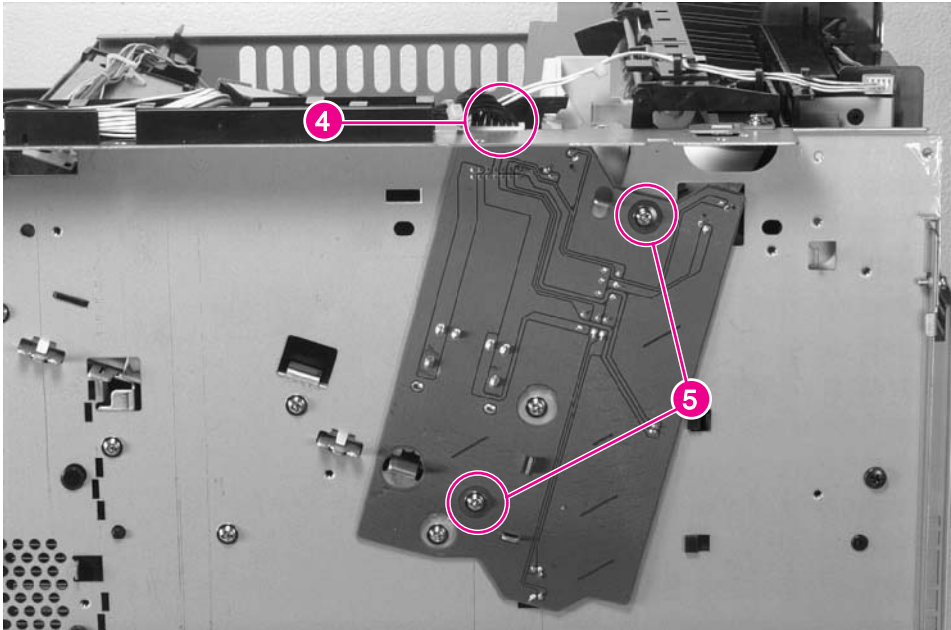

Figure 6-45 Output Paper Sensor PCA (4 of 4)
- 5 Unplug the connector (figure 6-45, callout 4).
- 6 Remove 2 screws (figure 6-45, callout 5), and unplug the connector on the back side of the PCA.